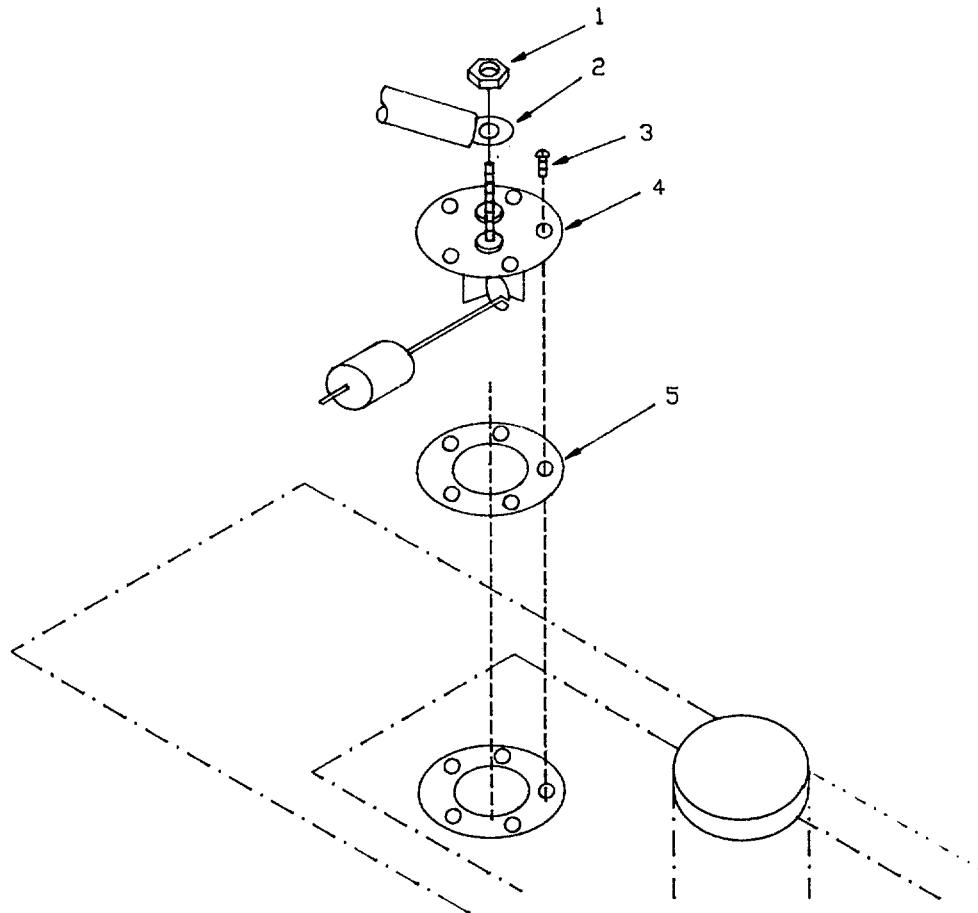

Figure 4-20. Liquid Level Switch.
- (1) Remove plain hexagon nuts (1, Figure 4-20) of switch terminals.
- (1) Install gasket (5, Figure 4-20).
- (2) Install liquid level switch (4).
- (3) Install tapping screws (3) and tighten.
- (4) Connect wires (2) to corresponding terminal and remove tags.
- (5) Install and tighten plain hexagon nuts (1).